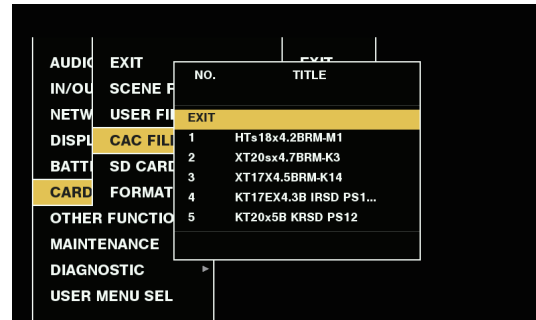

Fig. 2
- 3 Select the file number to load, and press the jog dial button (or <SET> button). (Fig. 2)